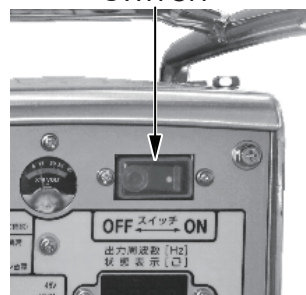

Figure 3. Circuit Protector Switch
3. Place the **circuit protector switch** (Figure 3) in the **ON** position. Make sure that the cooling fan starts and the green LED lamp lights up (normal voltage range). If the green or orange LED lamp is blinking or the red LED is lit, an abnormality has been detected in the power source. Stop using immediately and correct the cause of the abnormality before operation.